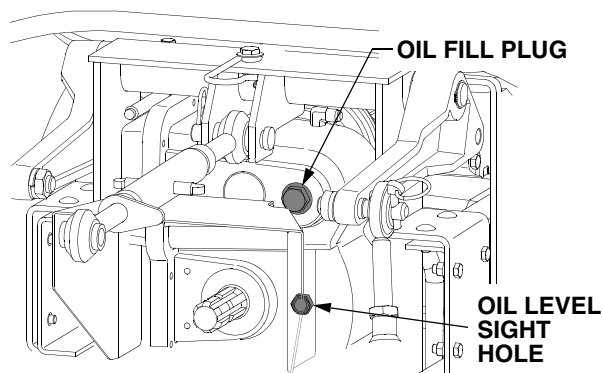

Figure 43
The oil level sight glass is located in the rear of the transmission housing, just to the right of the rear PTO shaft. Refer to Figure 43.
- Locate the oil fill plug on the upper right of the rear of the transmission housing. See Figure 43.
- Clean the area around the transmission fill plug to prevent debris from entering the transmission (Refer to Figure 43) and remove the plug.
- Clean the area around the transmission drain plug and the oil fill plug to prevent debris from entering the transmission. Refer to Figure 43 and Figure 45.
- Remove the oil fill plug to help vent the transmission, then remove the drain plug and allow the transmission oil to drain into the container(s). Reinstall the drain plug after draining the oil. Refer to Figure 43 and Figure 45.